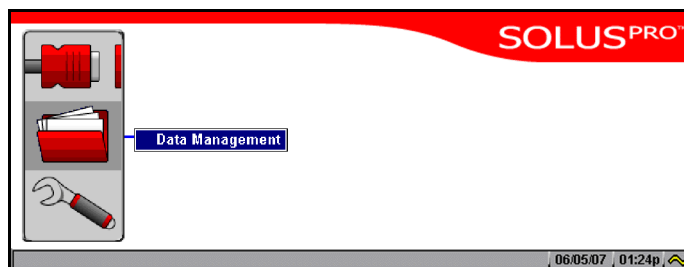

Figure 5-68 Data Management Menu Option
2. Select the **Data Management** menu option (Figure 5-68).